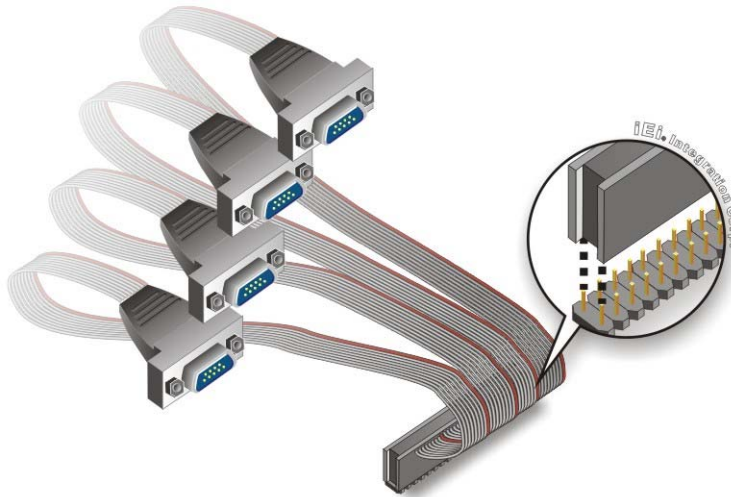

Figure 4-13: Four Serial Port Connector Cable Connection
- Step 2: Align the connectors.** Correctly align pin 1 on the cable connector with pin 1 on the WAFER-945GSE 40-pin serial port connector. See **Figure 4-13**.
- Step 3: Insert the cable connectors** Once the cable connector is properly aligned with the 40-pin serial port connector on the WAFER-945GSE, connect the cable connector to the on-board connectors. See **Figure 4-13**.